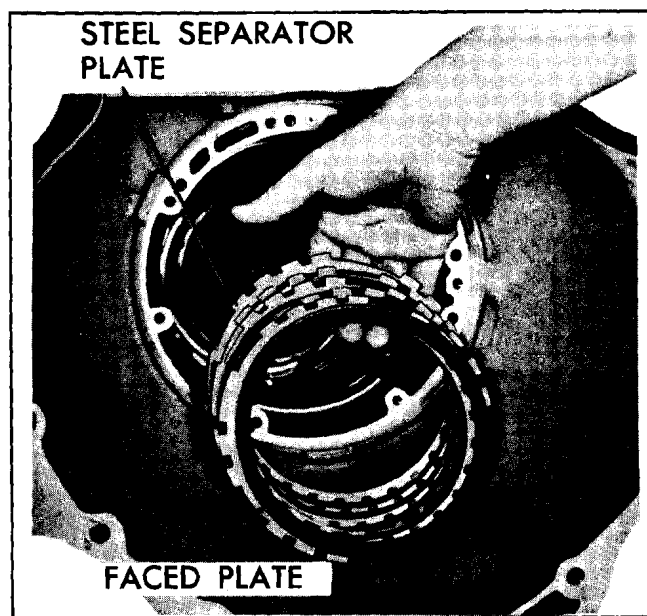

Fig. 7G-151 Installing Low and Reverse Clutch Pack
13. Install low and reverse clutch support retainer spring (Fig. 7G-66).
14. Install low and reverse roller clutch and support assembly into case, pushing firmly until support assembly is seated past the top of low and reverse clutch support retainer spring (Fig. 7G-65).